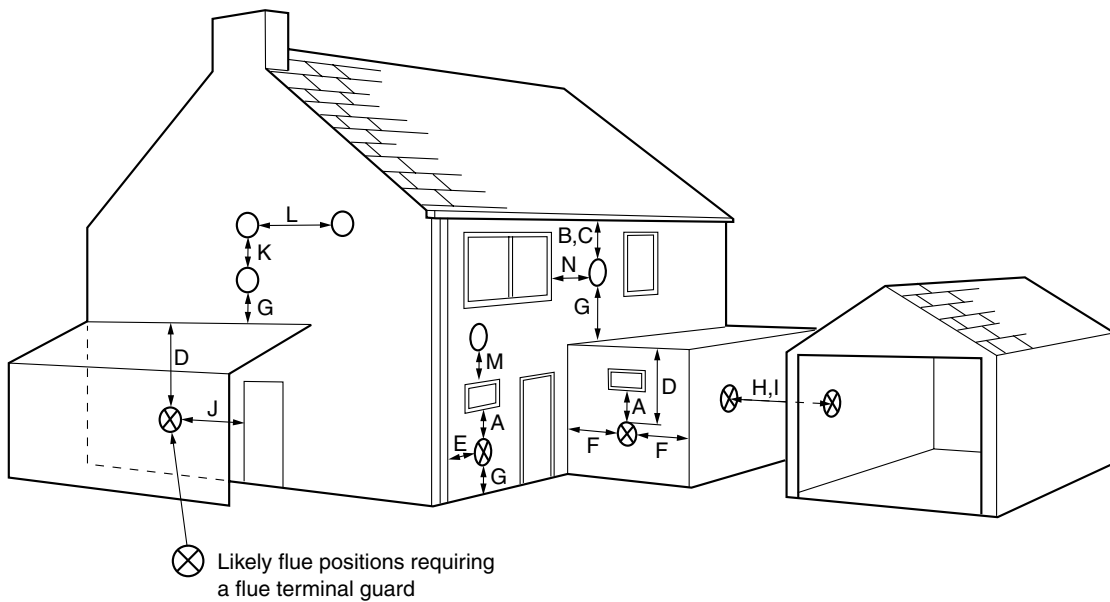

Fig. 12
**Terminal Position with Minimum Distance (Fig. 12) (mm)**